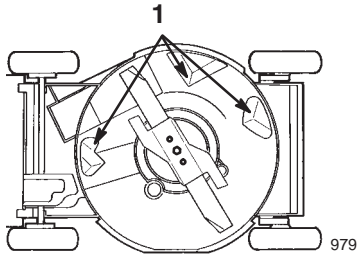

Figure 21
Keep the underside of the lawn mower housing clean. Be especially careful to keep the kickers free of debris (Fig. 21).
5. Tip the lawn mower onto its *left* side (Fig. 21).